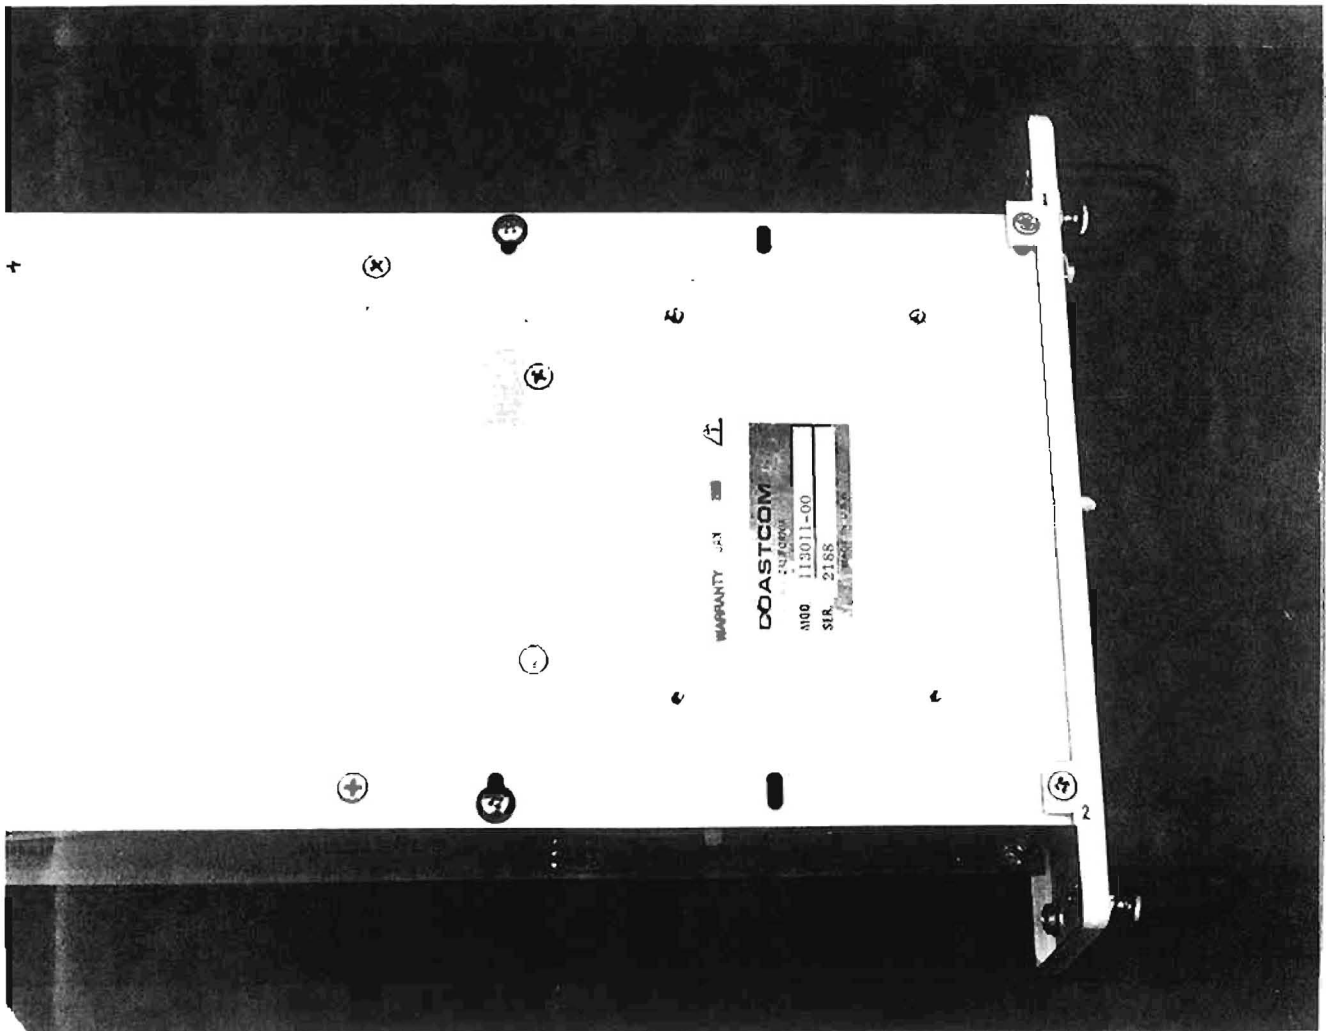

FIGURE NO. 2
- 3) Holding the two sides of the demodulator together, turn the demodulator over and remove the two screws holding the metal plate to the front panel. (See figure No. 2)